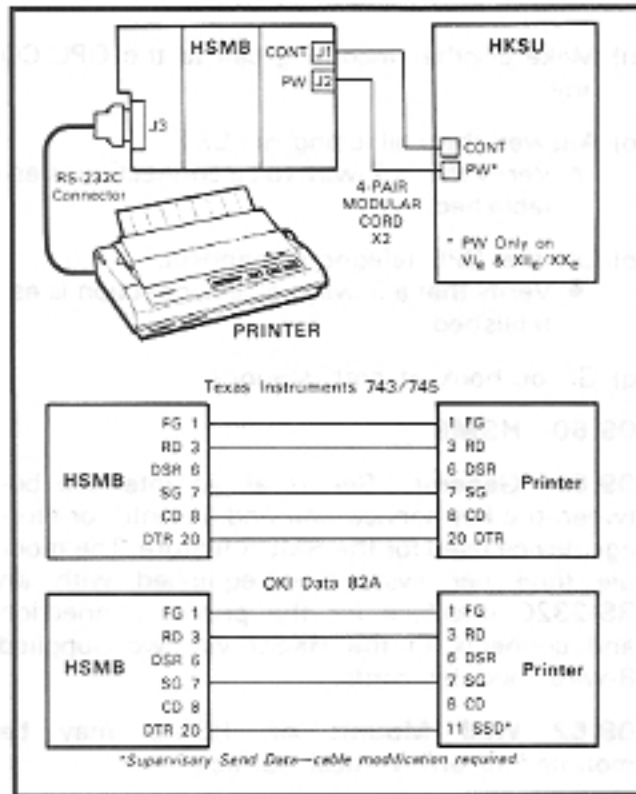

FIGURE 35—HSMB/PRINTER CABLING
09.63 Cabling: The HSMB must be installed within 17' of the HKSU (a 7' cord is provided with the module), and connected by an 8-wire modular cable. Connect the modular cable from **J1** (CONT) on the HSMB to the **CONT** connector on the HKSU. The RS-232C printer connector is installed at **J3** on the HSMB. Connect **FG** on the HSMB and the HKSU. Figure 35 shows the detailed connections for the printers listed above. Verify that the RS-232C output cable is connected to the PCB with the proper pin-out connections (A or B). Printer types known to be compatible with these systems are: